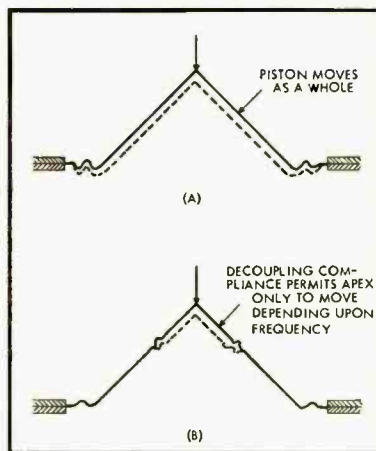

Fig. 6. Differential motion of parts of the diaphragm is obtained through the use of decoupling compliances.
The very simplest contour variation that we may consider is the built-in compliance or decoupling element (shock absorber) somewhere along a zonal plane near the apex area of the diaphragm, as illustrated at (B) Fig. 6. Obviously, when pressure is applied to the apex of the cone this apex will move, but the motion will not be transferred as readily to the main body of the cone because of the “shock absorbing” properties of the decoupling compliance. Frequency discrimination will, of course, be involved in this motional transfer. As in the case of the car going over the bumpy road, the high-frequency vibrations will energize only that portion of the moving system between the driving force and the decoupler—in this case the apex area. The main body of the cone will be isolated relatively from these high-frequency impulses by the decoupling compliance. Thus the high frequency signals will be called upon to drive only a relatively small light diaphragm (the apex area) because of this compliance rather than the large heavy diaphragm. The end result is more efficient transduction of high-frequency energy.
(Fig. 6). Naturally the VI would be switched on, then the equalizer. The output-impedance switch is set at 16 ohms to match that of the recording head, while the potentiometer knob is turned to preset the desired resistance, from one to six ohms. (Cords are stored in spring clips, Fig. 7).
Fig. 6. Hi-fi experimenter at one of the many controls monitors cutting of LP disc from tape of live FM program. Note patch cords in record-playback jacks of jack-panel at top left.
and $LC = 3 \times 10^{-10}$. From Fig. 4 the first value gives +1 db at reference frequency, while the second value with Fig. 5 gives the reference frequency as 9 kc. Next, from Fig. 6, we see that a curve with +1 at reference frequency gives a peak of +2 db at a relative frequency of 0.78. In this case this represents a response with a peak of 2 db at about 7 kc, 1 db up at 9 kc and about 12.5 db down at 20 kc.